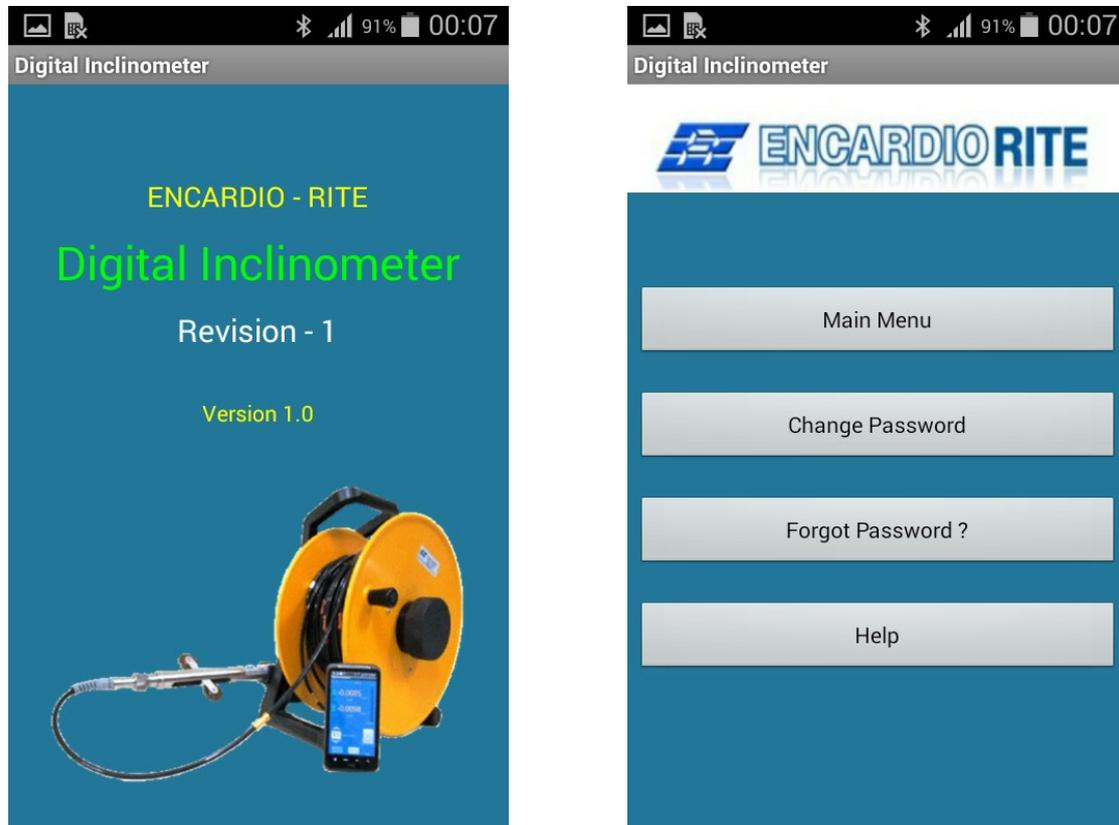

Figure 7-3 Splash Screen & Home Screen
- The app will show the name of the application and its version (refer to left screenshot in figure 7-3). This screen will splash for few seconds and then option menu appears.
- Figure 7-3 (right screenshot) shows different function buttons. With 'Change Password' button, the password for database deletion can be changed or it can be regenerated with 'Forgot Password?' button. Help information can be accessed by pressing 'Help' button. 'Main Menu' button is used to proceed further.